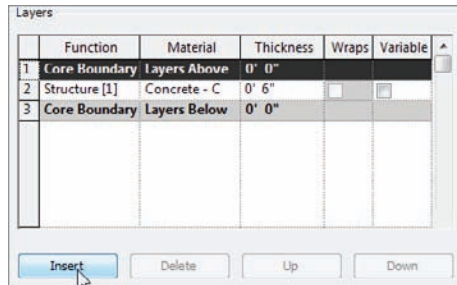

FIGURE 6.37 Adding a new layer
11. In the Edit Assembly dialog box, select the 1 button to the left of the Core Boundary item that is above the Structure layer, as shown in Figure 6.37.
12. Click the Insert button (see Figure 6.37).
16. Find the material in the menu called Carpet (1) and click OK.